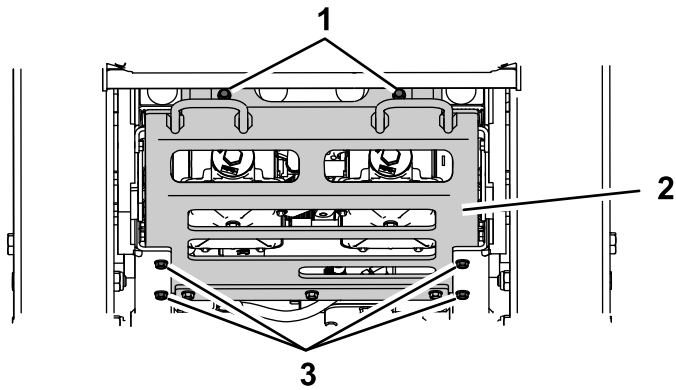

Figure 41
5. Remove the skid plate (Figure 41).